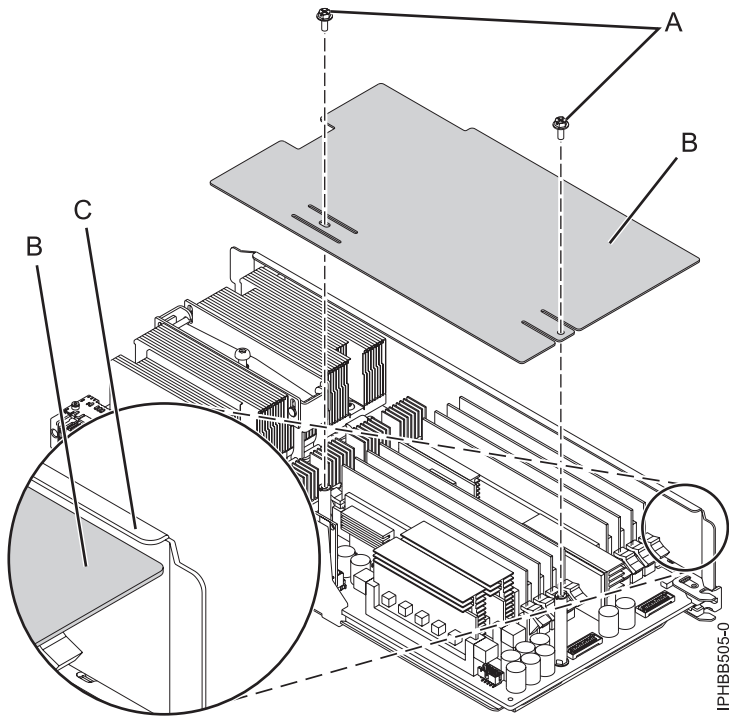

Figure 1. Installing the flat system processor assembly cover
- If you have the flat cover shown in Figure 1, install the cover (B) under the sheet metal flange (C) and tighten the two screws (A).